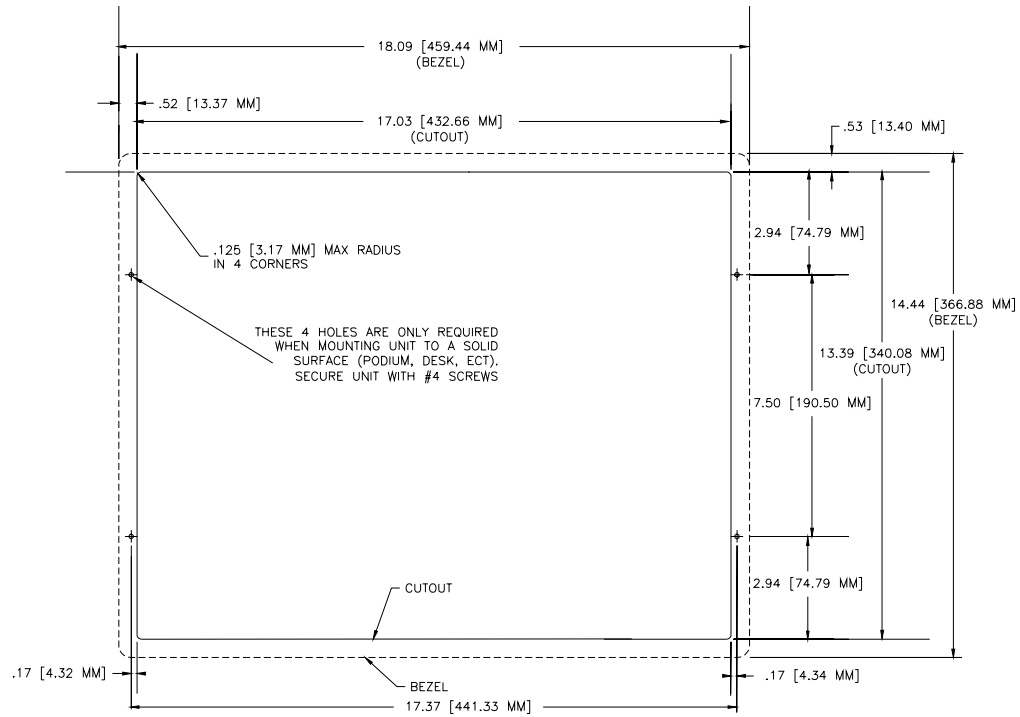

FIG. 61 NXD-1700VG Wall Mount panel dimensions using #4 mounting screws
- **Pre-wall** framing is done prior to the drywall installation (local framing instructions vary based on location and building codes). Mount the main NXD unit into a pre-wall environment by fitting the right side of the box against a beam, then notching the stud closest to the connectors (based on FIG. 61 and the depth of the drywall), and using the securing screws to fasten the unit into place after the drywall has been installed. A horizontal beam can be installed (framed) below the back box to provide lower support.
5. Cut out the surface for the Wall Mount using the dimensions shown in FIG. 61.